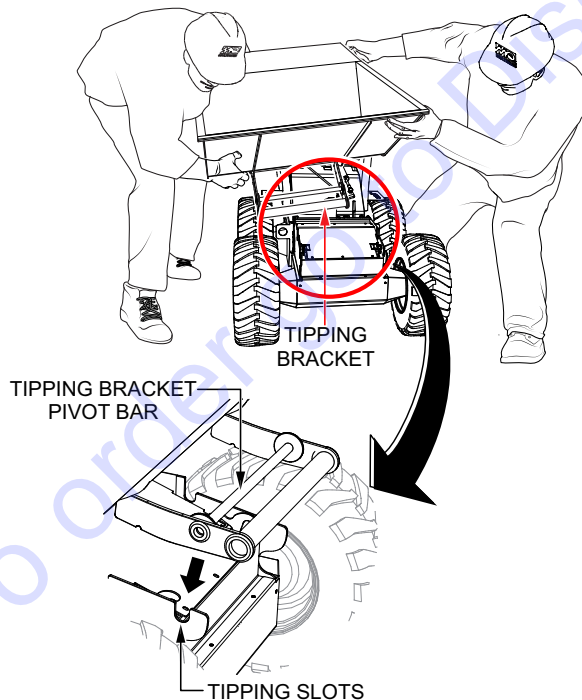

**Figure 71. Tipping Bracket Orientation**
3. Orient the tub tipping bracket to the base of the tub as shown in Figure 71.